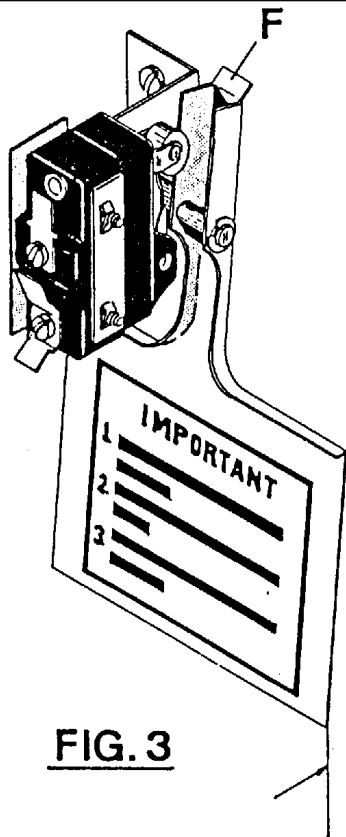

FIG. 3
- Step 2** Loosen the 4 side bolts, "1, 2, 3, 4" on the basket bearing bracket. (see figure 3) Loosen the two adjusting bolts and locknuts "5, 6" inside the bracket. Loosen the bolts "7" on the pillow block bearing.
4. Maximum opening of air switch must be no greater than $\frac{3}{4}$ " (FIGURE 3). Bend tab "F" in or out to maintain this dimension.